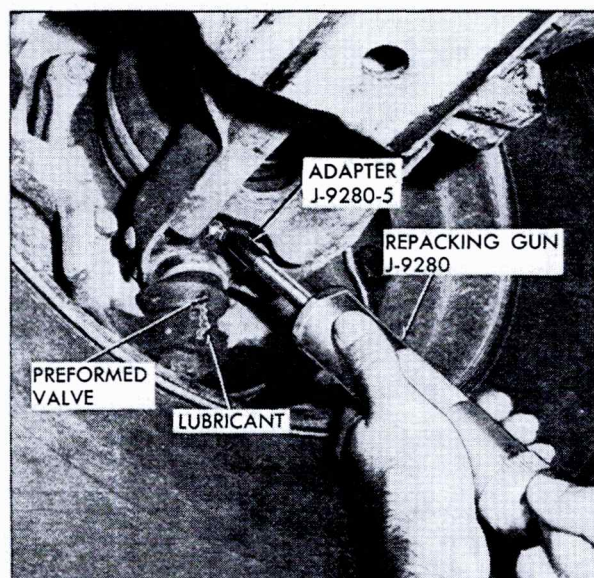

Fig. 3-54 Repacking Lower Spherical Joint Seal
5. Lubricate spherical joint fitting until grease escapes from valve in side of seal as shown in Fig. 3-54.